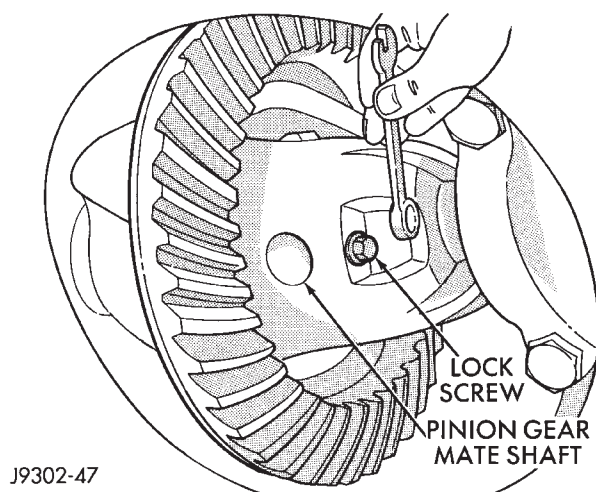

Fig. 22 Mate Shaft Lock Screw
(1) Raise and support vehicle. Ensure that the transmission is in neutral.
(2) Remove rear wheel and tire.
(3) Remove brake caliper and rotor. Refer to Group 5, Brakes, for proper procedure.
(4) Clean all foreign material from housing cover area.
(5) Loosen housing cover bolts. Drain lubricant from the housing and axle shaft tubes. Remove housing cover.
(6) Rotate differential case so that pinion mate gear shaft lock screw is accessible. Remove lock screw and pinion mate gear shaft from differential case (Fig. 22).